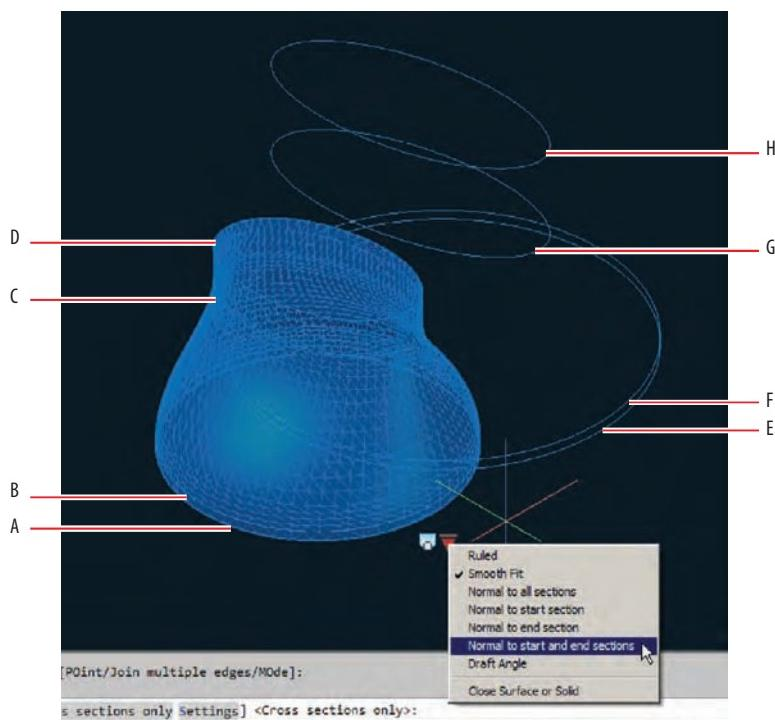

FIGURE 17.20 Lofting one of the two ventilation towers
3. Zoom in on the collection of blue circles and ellipses. Select the Loft tool from the drop-down menu under Sweep on the Solid panel and press Enter. Select profiles A, B, C, and D shown in Figure 17.20 and press Enter twice. Select the loft object, open the grip menu that appears, choose Normal To Start And End Sections, and press Esc.
4. Press the spacebar to repeat the LOFT command. Select profiles E, F, G, and H, shown in Figure 17.20, and press Enter twice. Select the new loft object, open the grip menu that appears, choose Normal To Start And End Sections, and press Esc. Figure 17.21 shows the result.